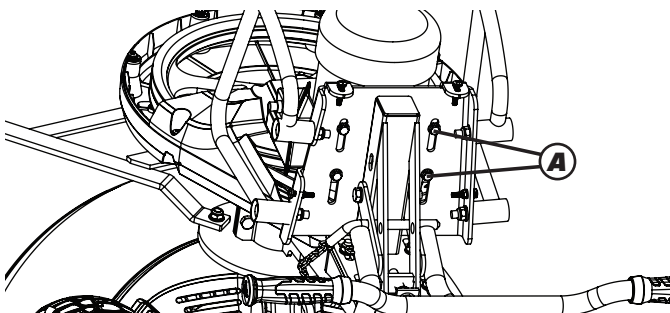

FIGURE 11
- b) Loosen the 4 bolts that hold the motor to the motor mount. **(Figure 11 - A)**